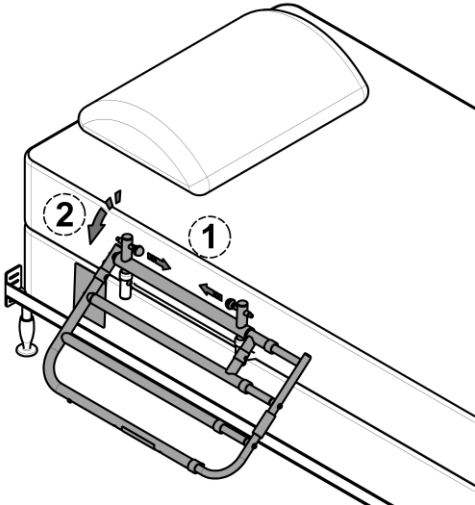

FIGURE 6B
- 6B.** To lower bed rail: Pull both KNOBS inward, then rotate rail down. *FIGURE 6B*.